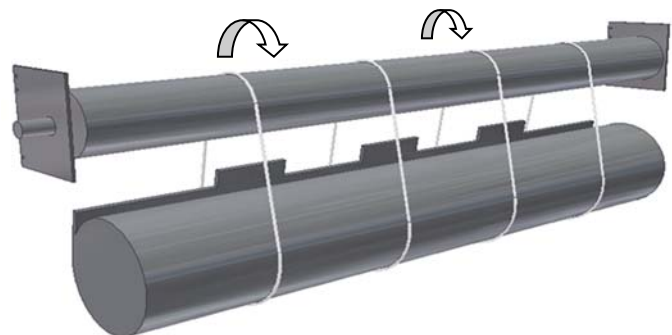

Figure 8.3 - Installing the Curtain
5. Lift the coil until it is just below the shaft. Using appropriately rated straps, sling the coil from the shaft as shown in **Figure 8.3**. Remove the plastic strapping securing the coil at this point.
Note: SA0005 adjusters require the use of an adjustor bar as a stop as well as a 3/8" thick x 2" wide x 30" to 40" long A36 steel bars to apply spring torque. See **Figure 8.3**.